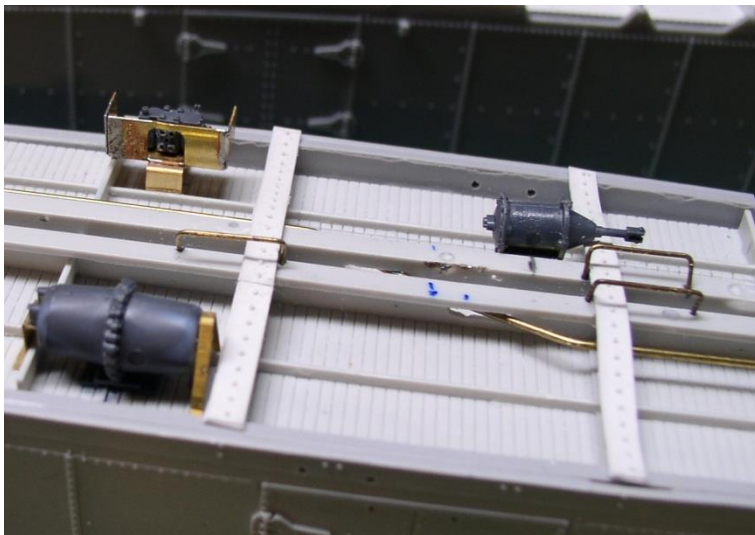

Figure U13
13. Carefully drill 0.020" holes in the top of the Centre Sill where you have marked to allow installation of the Brake Lever Hangers on the double set. Form the Hangers from 0.020" wire. The legs of the hangers should have about a 20° sideways bend, if you desire. If angled, install with the angle away from the Sill otherwise have them sit between 8 and 9 " proud of the top of the Sill. See Figure U13.